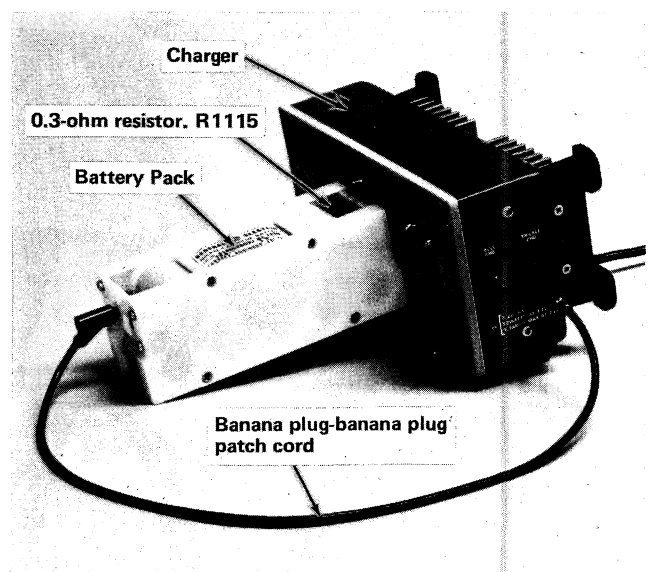

Fig. 5-19. Ground connection required to charge Battery Pack outside of instrument.
b. Connect a banana-banana patchcord from the negative battery pack output terminal to the negative external DC supply banana plug. See Fig. 5-19.